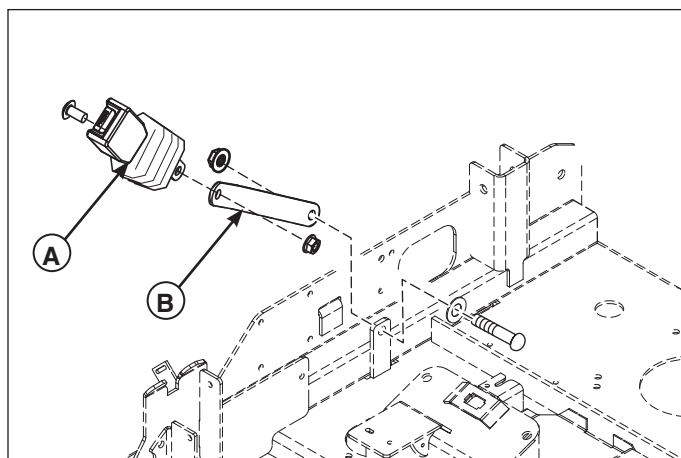

Figure 5. Install the New Seat Sleeve Buckle & Seat Belt Extension Plate
1. See Figure 5. On the right hand side of the machine, replace the existing seat sleeve buckle (**A, Figure 5**) with the new super sleeve buckle. Replace the existing seat belt extension plate (**B**) with the new seat belt extension plate.